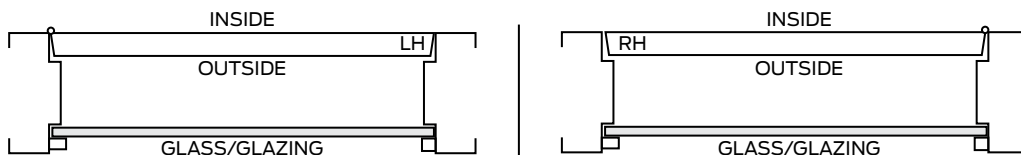

Figure 11.2: Straight handed shutters
- Straight handed shutters (Figure 11.2: Straight handed shutters): Shutters with glass in a 4-sided frame are always straight handed. If the shutter opening does not have glass, but is still installed into the rabbet nearest to the inside/shelter/safe side of the opening, then the shutter is still straight handed.